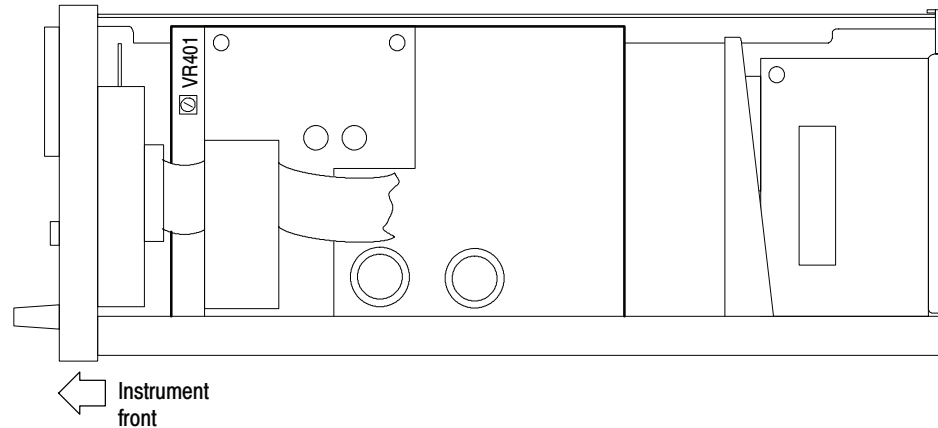

Figure 14: VR401 adjustment location
10. Adjust VR401 for a DVM reading of 6.5 V. See Figure 14 for the adjustment location.